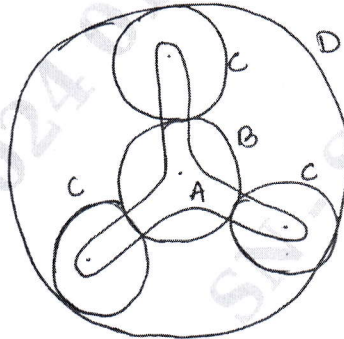

Fig Q8(a)
- 8 a. An epicyclic gear train of sun and planet type is as shown in Fig Q8(a). The pitch diameter of internally toothed ring 'D' is approximately 228mm and the module is 4mm. When the ring is stationary, the spider 'A' which carries three planet wheel 'C' of equal size is to make one revolution for every five revolutions of the spindle carrying the sun wheel B. Determine suitable number teeth for all the wheel and the exact pitch circle diameter of ring D. If torque of 30Nm is supplied to sun wheel B, what will be the torque required to keep the ring stationary.